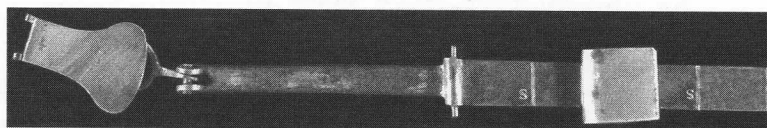

Fig. 4. ^^ Beam from a folder for the Half-Johannis and Quarter-Johannis. The slide is unusual in not being tightly wrapped round the beam.
**Unknown maker**, Birmingham (?) Fig. 4.